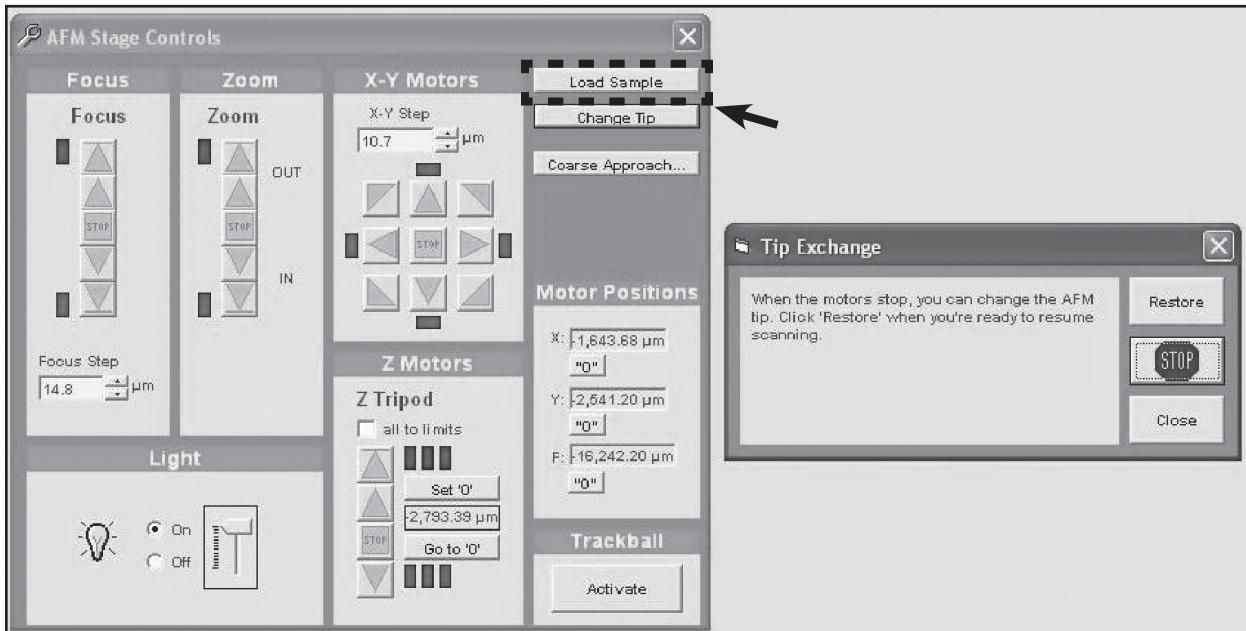

Figure 4.20: Load Sample Wizard (accessed from AFM Stage Controls window)
4. Click the Load Sample button and then the Start button (see Figure 4.20).